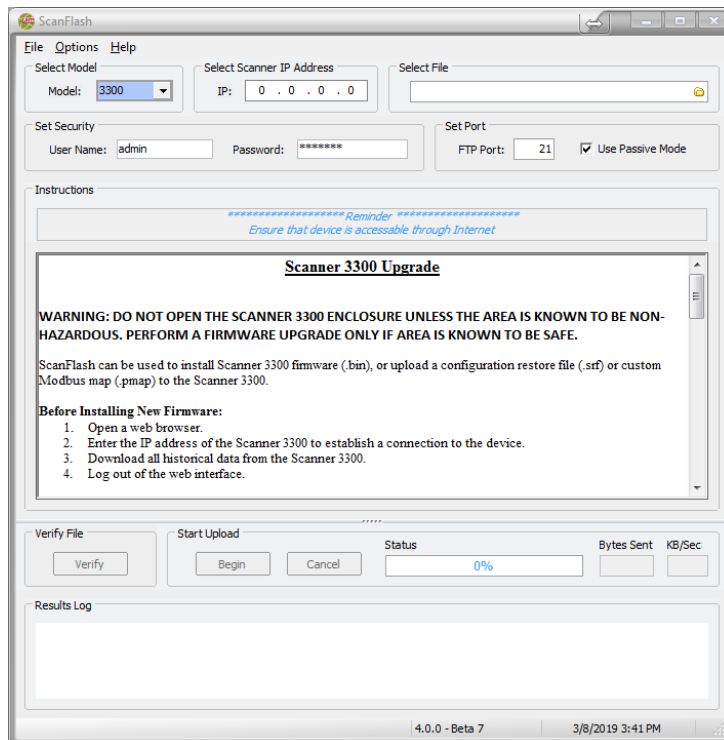

Figure B.1 - ScanFlash interface
4. Open ScanFlash (shown in Figure B.1) and ensure that the correct model is selected (i.e. 3300).